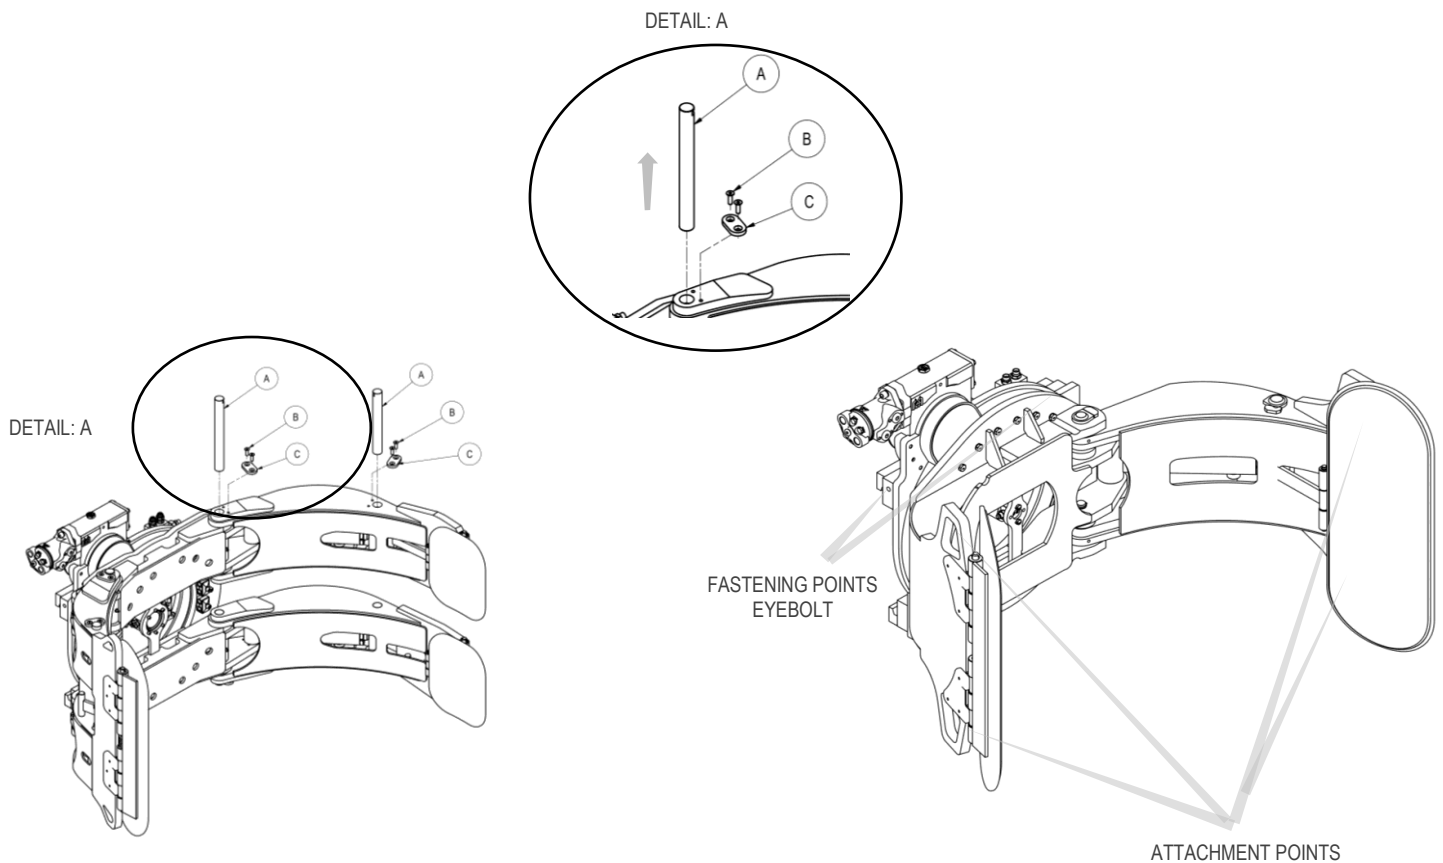

Figure 2
2. Remove the equipment from the forklift via the attachment points indicated in Figure 2;
3. Secure the equipment using the attachment points indicated in Figure 2;
- Using a suitable spanner, unscrew bolts “B” and remove pin “A” as shown in detail A Figure 2 and detail B Figure 2. In the detail, the pin securing the upper cylinder to the fixed structure is shown; also perform the operation on the other jaws.